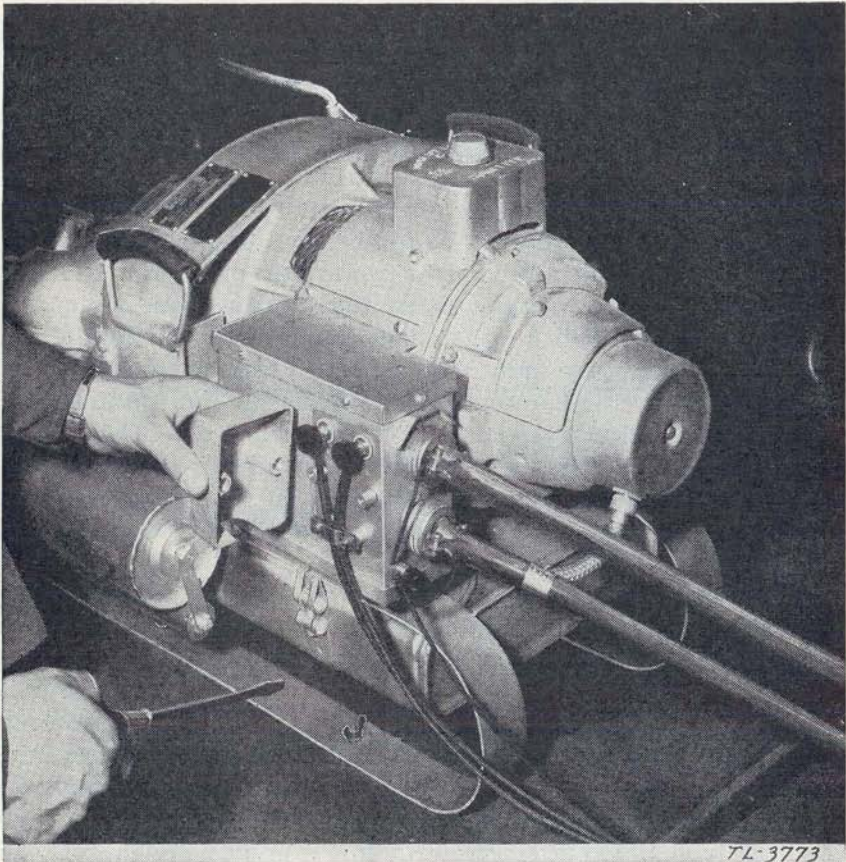

FIGURE 14.—Close-up of power unit PE-75-( ), showing connections to binding posts and twistlock receptacles.
*d.* The cord CD-415 permits quick connection of the power unit to the rectifier over distances of 50 feet or less. If greater separation is necessary, use a line consisting of two lengths of the No. 10 AWG flexible wire provided with the transmitter. Connect one end of this line to the heavy binding posts under the cover on the side of the filter case on the power unit. (See fig. 14.) Connect the other end to the duplex twistlock receptacle installed in a 4-inch outlet box. Connect the rectifier to the latter by means of the cord CD-415.